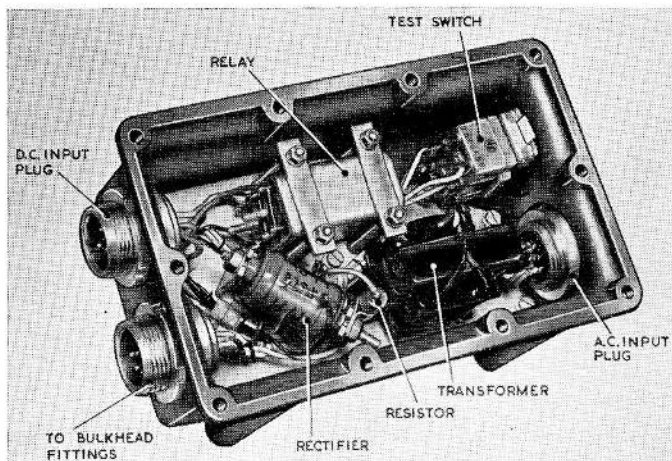

Fig. 2. Contents of relay box
5. The components of the relay box, which are shown in fig. 2, are mounted on a light-alloy chassis and consist of; a transformer, a full-wave rectifier, a relay, a double-pole change-over test switch, and in early boxes a 330 ohm resistor. The transformer is a step-down transformer with a tapped primary winding for use on 115V or 26V, 400 c/s a.c. supply. The 330 ohm resistor which was intended to compensate for the reduced circuit impedance on operation of the test switch is deleted on relay box Serial No. 3494 and all subsequent units.